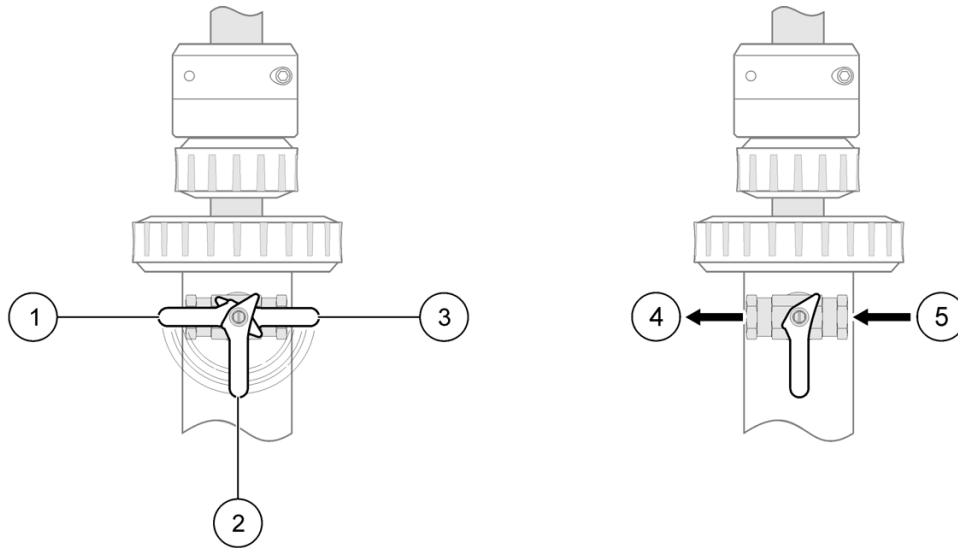

Figure 5 Inserting the Sensor into a Pressurized Pipe/Vessel
4. Connect a ¼-inch air or water-assist line to the ¼-inch NPT fitting of the brass control valve on the ball valve hardware. Turn this control valve to its center OFF position (see Figure 5).
5. Connect a drain line to the fitting on the other side of the control valve (see Figure 5).
1. Slowly turn the ball valve to its full OPEN position (see Figure 5).
2. Slowly turn the brass control valve to its full EXTRACTION position. See Figure 5. Permit the shaft assembly to move to its maximum outward travel. This ensures that the sensor electrode has cleared the ball valve opening.